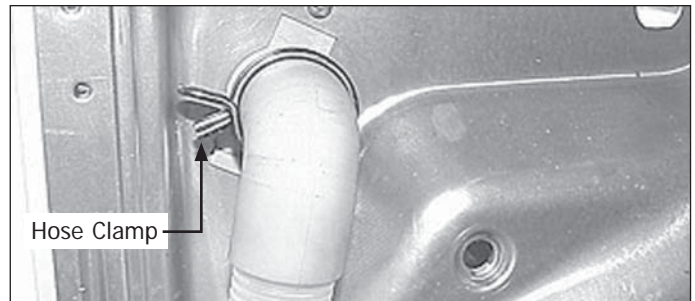

Figure 4-48.
1. Release the clamp and pull the hose off the coupler. (See Figure 4-48)